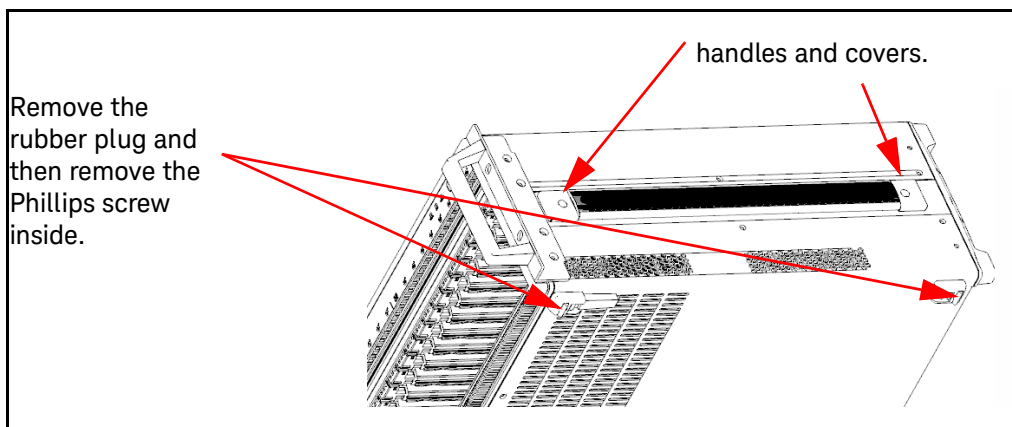

Figure 1 Removing the Chassis Feet
- 1 Refer to Figure 1 below. Remove the side handles and handle covers from both sides of the M9018A PXIe chassis.
- 2 Remove the four chassis feet by pulling out the small rubber insert on each foot and then removing the Phillips screw that attaches the foot to the chassis. See Figure 1.